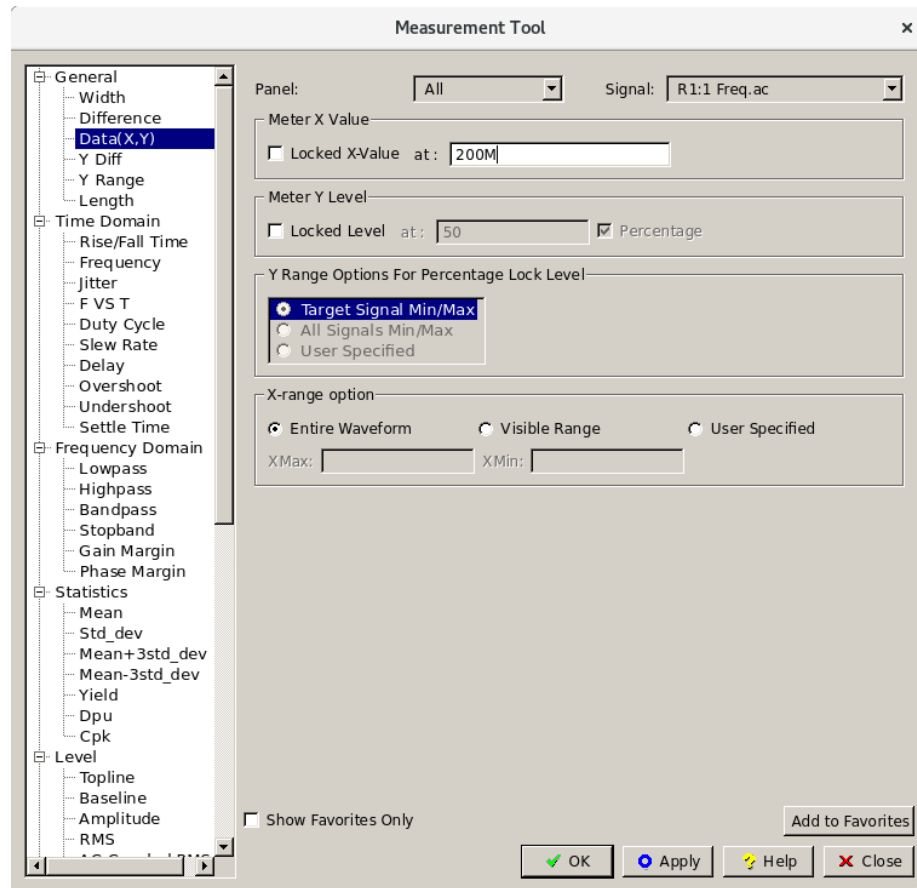

Figure 5. Measuring tool
- Setup measurement tool as shown in Figure 5. On the “Meter X Value” select an X value from the curve. For example, we picked 200MHz in the image below.